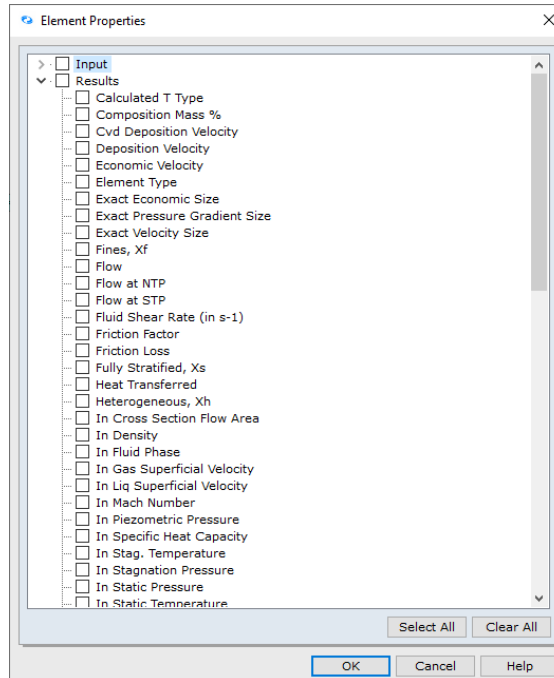

Figure 41: Element Properties Dialogue Box.
45. Now we will select the field titled *Properties* from the Input list. An *Element Properties* dialogue box will appear (Figure 41):